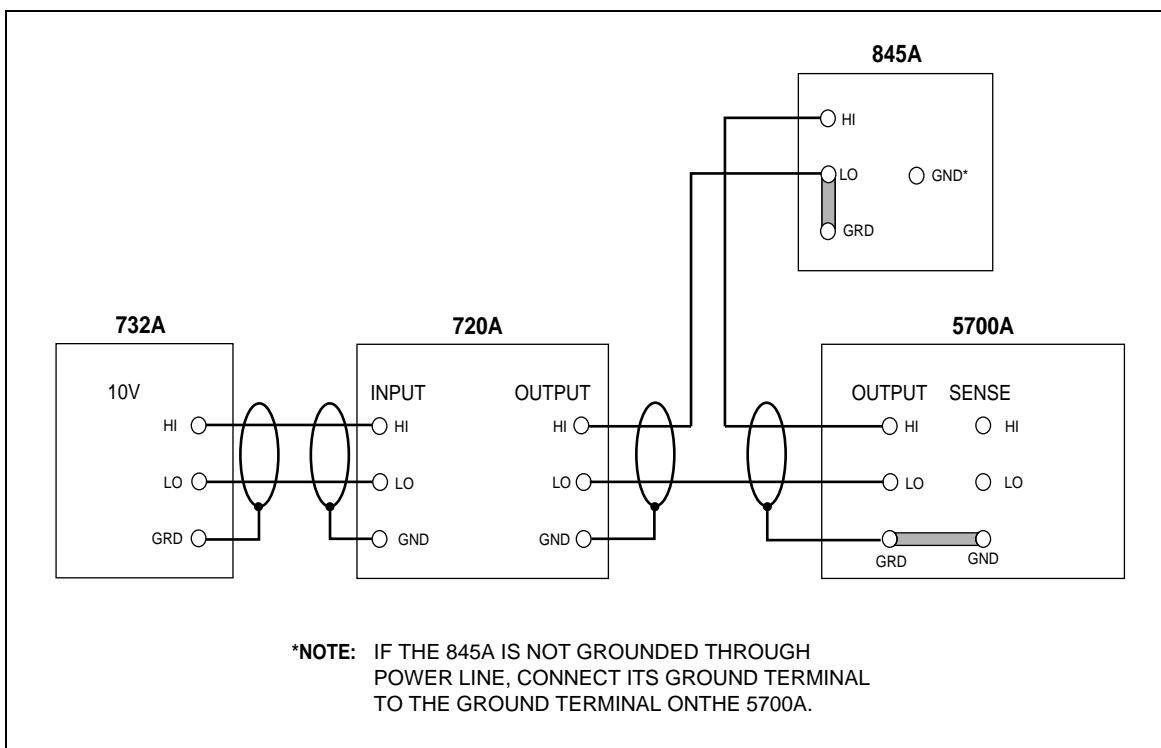

Figure 3-15. DC Voltage Linearity Test
- Self calibrate the Kelvin-Varley (KV) divider as called for in its service manual.
- Connect the equipment as shown in Figure 3-15.